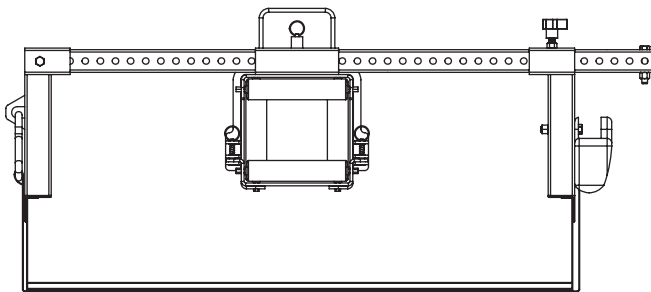

Figure 2
- Fasten the roller to the cable tray as shown in Figure 2. Secure the roller to the tray by releasing the ratchet strap, pulling the strap underneath the tray, attaching the hook to the mount on the opposite leg, and ratcheting until tight.